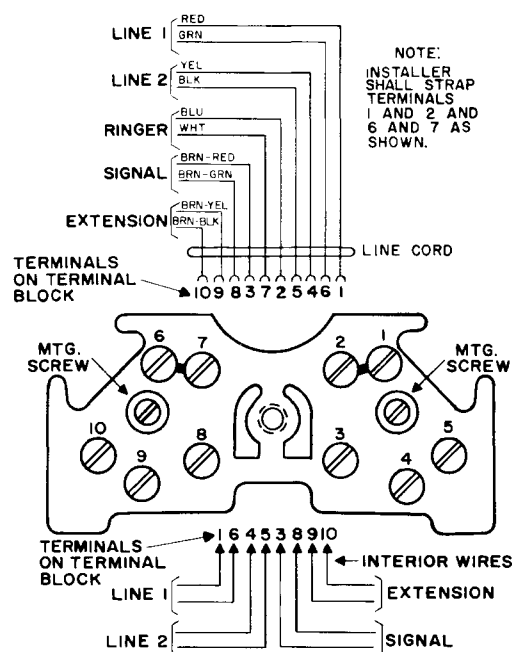

Figure 4. Standard terminal block wiring for self-compensating Type 85C telephones.
2.4 Self-compensating Type 85C telephones are also equipped with one 10-terminal, terminal block. Figure 4 illustrates the standard connections at the terminal block for the line cord wires and interior wires.